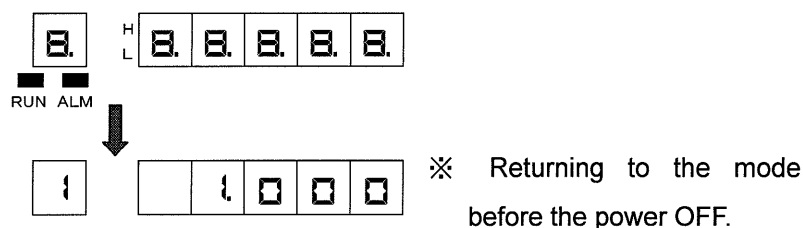

Fig. 6.1 Display Screen at Power-on
- (1) Display screen : The "RUN" lamp keeps the condition of before power-off.
- (2) Printout data : All printing data and analog recording data of before power-off are cleared.
- (3) Alarm and Diagnosis : Alarm indications and outputs of before power-off are not recovered.
- (4) Data display and Channel number are indicated refer to Fig.6.1.
- ① When electric power failure occurs, the initialization is performed after power recovery. And it becomes the above initial state.
- ② The printout data are eliminated in initialization. Printout operation is not continued after power recovery when the power is turned off during printout.
- ③ When the power is turned on, the display indicates "0" while reading data in Fig.6.1. The numeral of the indicated digit depends on the setting.